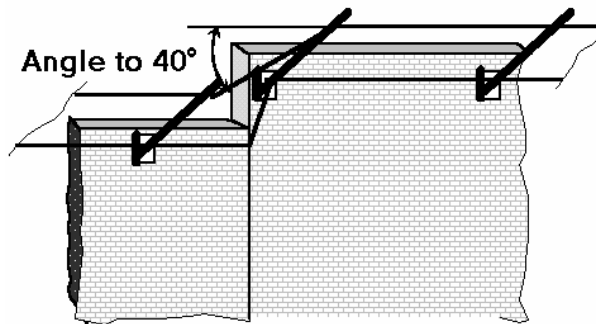

Fig. 2.4 Brackets Mounting in case of Height Difference
2.4.1.10. In case of fence height difference brackets should be mounted according to fig. 2.4.